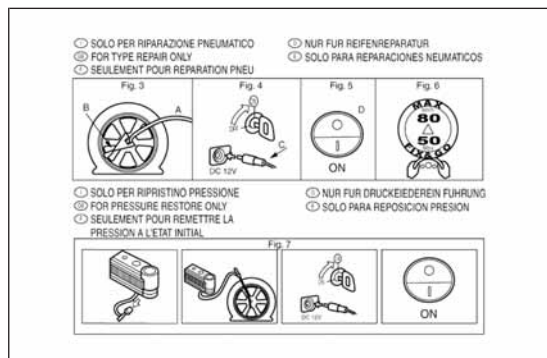

fig. 128
- ☐ an information leaflet fig. 128, providing instructions for using the kit correctly. This booklet should be given to the persons charged with handling the tyre treated with this kit;